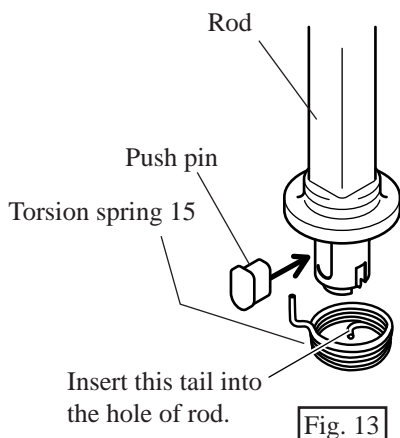

Fig. 13
- Apply MAKITA grease FA No.2 to push pin and set it in the hole of rod. And assemble torsion spring 15 to rod by inserting its tail shown in Fig. 13 into the hole of rod.